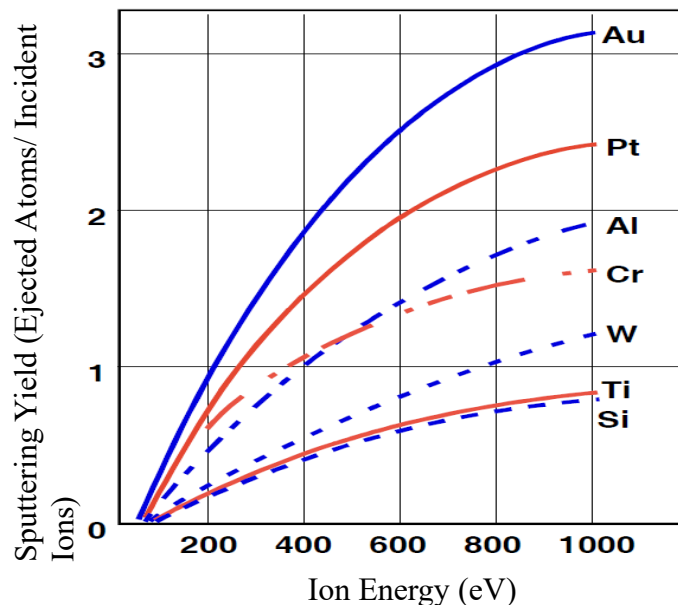

Figure 3 : Plot of sputter yield as a function of ion energy for normal incident argon ions for several materials
- In the sputtering process, the effect of ion energy on sputter yield is as shown in Figure 3 on page 4. Briefly explain the shape of the plot. Outline other key factors that affect the sputter yield.